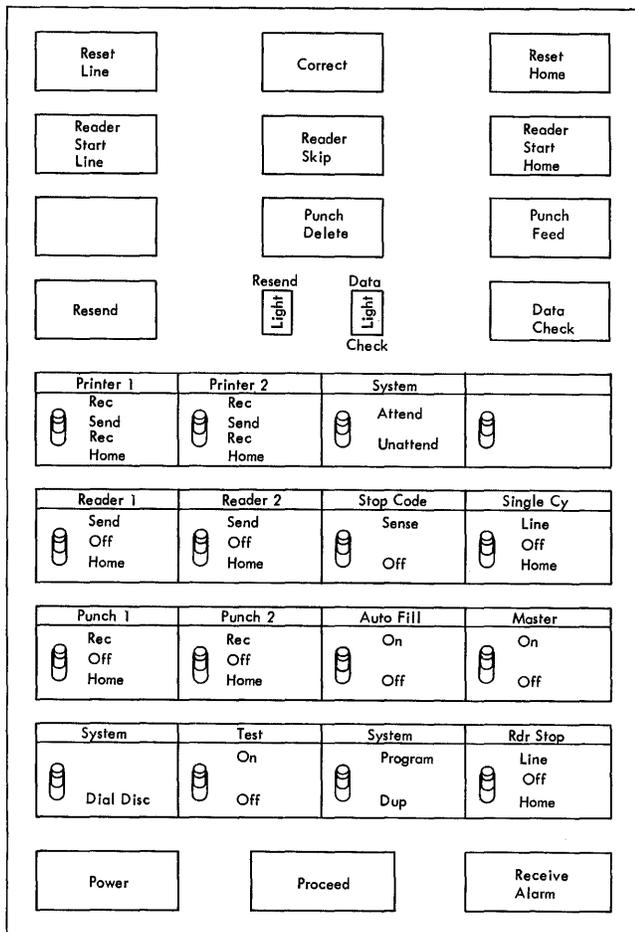

Figure 18. Switch Unit for Model 1, 1051 (required for any system without a 1052. Each model of the 1051 — 1, 2 and N1 requires a different unit).
**Buttons (Figures 18 and 20)**